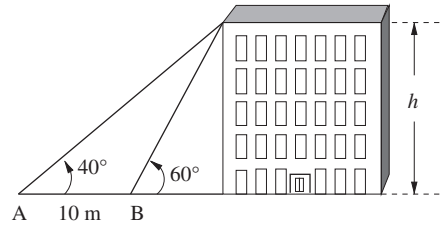

Figure P3.39 Survey set up to find the height of a building.
- 3-39.** To find the height of a building, a surveyor measures the angle of the building from two different points A and B as shown in Fig. P3.39. The distance between the two points is 10 m. Find the height h of the building.